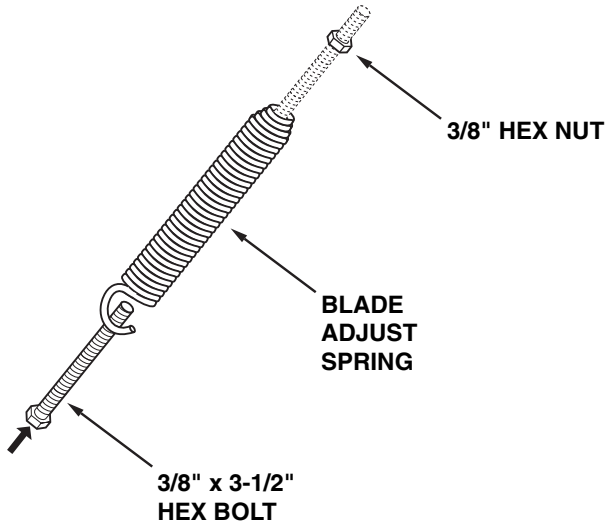

Figure 1
6. Insert the 3/8" x 3-1/2" hex bolt through the blade adjust spring. Assemble a 3/8" hex nut about 1" onto the end of the bolt. See figure 1.